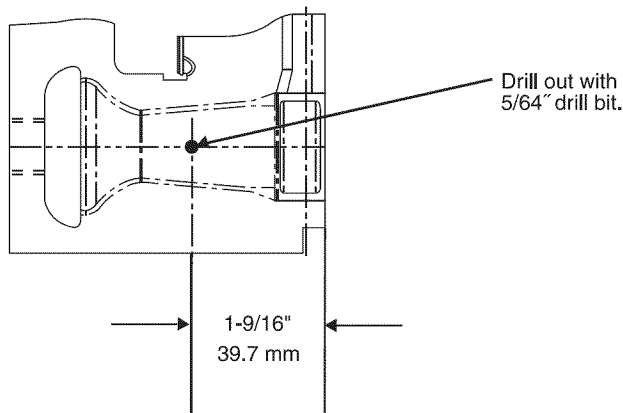

Fig. 39 - Mixer Screw Location
1. Locate the dimple on each burner venturi tube. If you cannot locate the dimple, refer to Fig. 39 for location of the mixer screw.